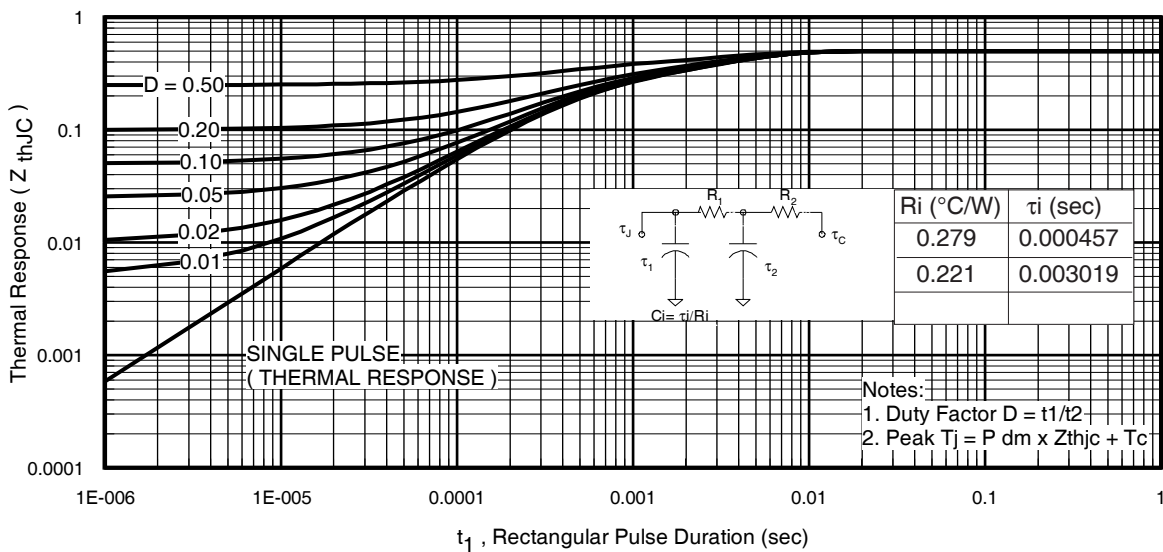
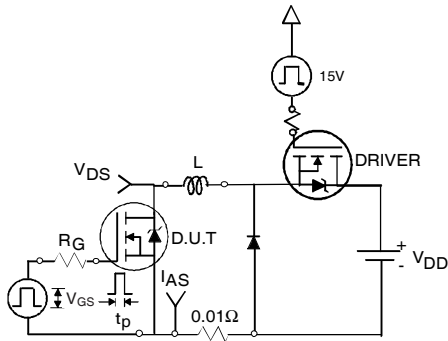

Fig 11. Maximum Effective Transient Thermal Impedance, Junction-to-Case
Fig 12a. Unclamped Inductive Test Circuit
| I_{AR} | Avalanche Current ③ | See Fig.12a,12b,15,16 | A |
- ① Repetitive rating; pulse width limited by max. junction temperature. (See fig. 11).
- ② Limited by T_{Jmax} , starting $T_J = 25^\circ\text{C}$, $L = 0.095\text{mH}$, $R_G = 25\Omega$, $I_{AS} = 75A$, $V_{GS} = 10V$. Part not recommended for use above this value.
- ③ $I_{SD} \leq 75A$, $di/dt \leq 340A/\mu s$, $V_{DD} \leq V_{(BR)DSS}$, $T_J \leq 175^\circ\text{C}$.
- ④ Pulse width $\leq 1.0\text{ms}$; duty cycle $\leq 2\%$.
- ⑤ $C_{oss\ eff.}$ is a fixed capacitance that gives the same charging time as C_{oss} while V_{DS} is rising from 0 to 80% V_{DSS} .
- ⑥ Limited by T_{Jmax} , see Fig.12a, 12b, 15, 16 for typical repetitive avalanche performance.
- ⑦ This value determined from sample failure population. 100% tested to this value in production.
- ⑧ This is applied to D²Pak, when mounted on 1" square PCB (FR-4 or G-10 Material). For recommended footprint and soldering techniques refer to application note #AN-994.
- ⑨ R_{θ} is measured at T_J of approximately 90°C .
- ⑩ TO-220 device will have an R_{th} of 0.45°C/W .
3. Equation below based on circuit and waveforms shown in Figures 12a, 12b.
$Z_{thJC}(D, t_{av})$ = Transient thermal resistance, see figure 11)